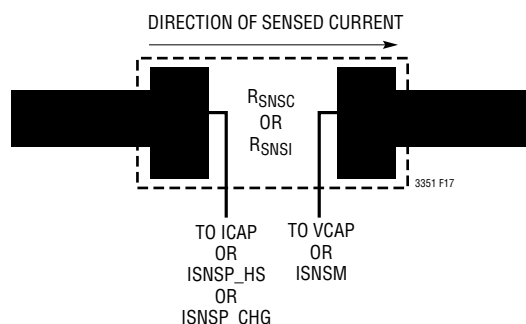

Figure 17.
6. Route  $I_{CAP}$  and  $V_{CAP}$  sense lines together, keep them short. Apply this rule to ISNSP\_HS, ISNSP\_CHG and ISNSM as well. Filter components should be placed near the part and not near the sense resistors. Ensure accurate current sensing with Kelvin connections at the sense resistors. See Figure 17.